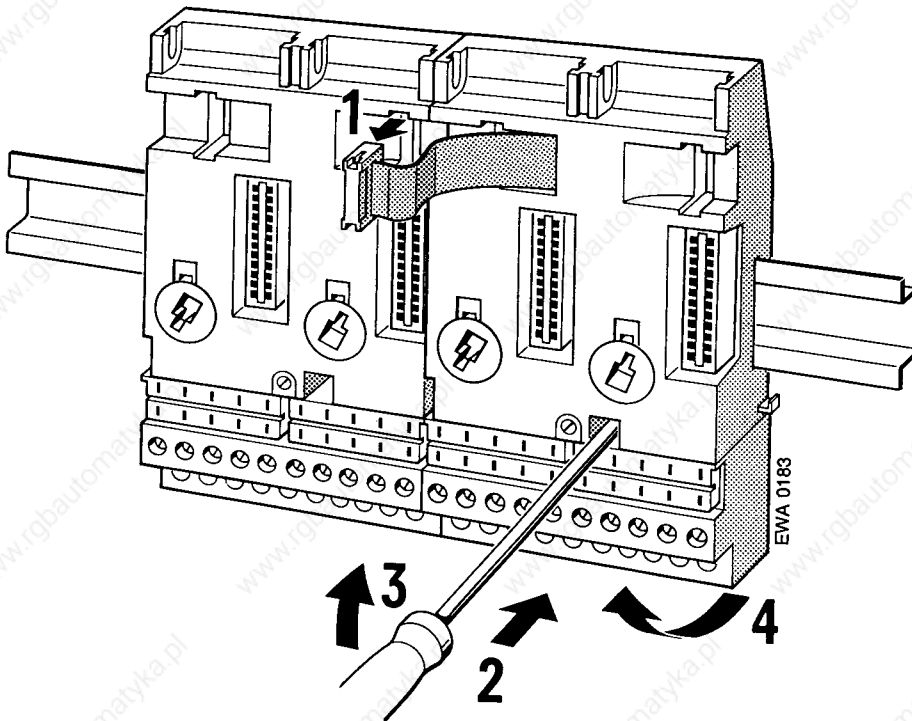

Figure 3-2. Removing Bus Units
2. Plug the connector either into the receptacle located on the right side of the CPU or into the receptacle of the adjacent bus unit located on the left (see Figure 3-2).